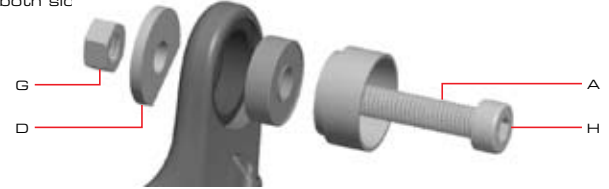

Fig.6
2. To reassemble the Main Pivot, orient the tools as shown in Fig. 6. Tighten the screw to press the bearing into the Chain Stay Yoke. Repeat for both side